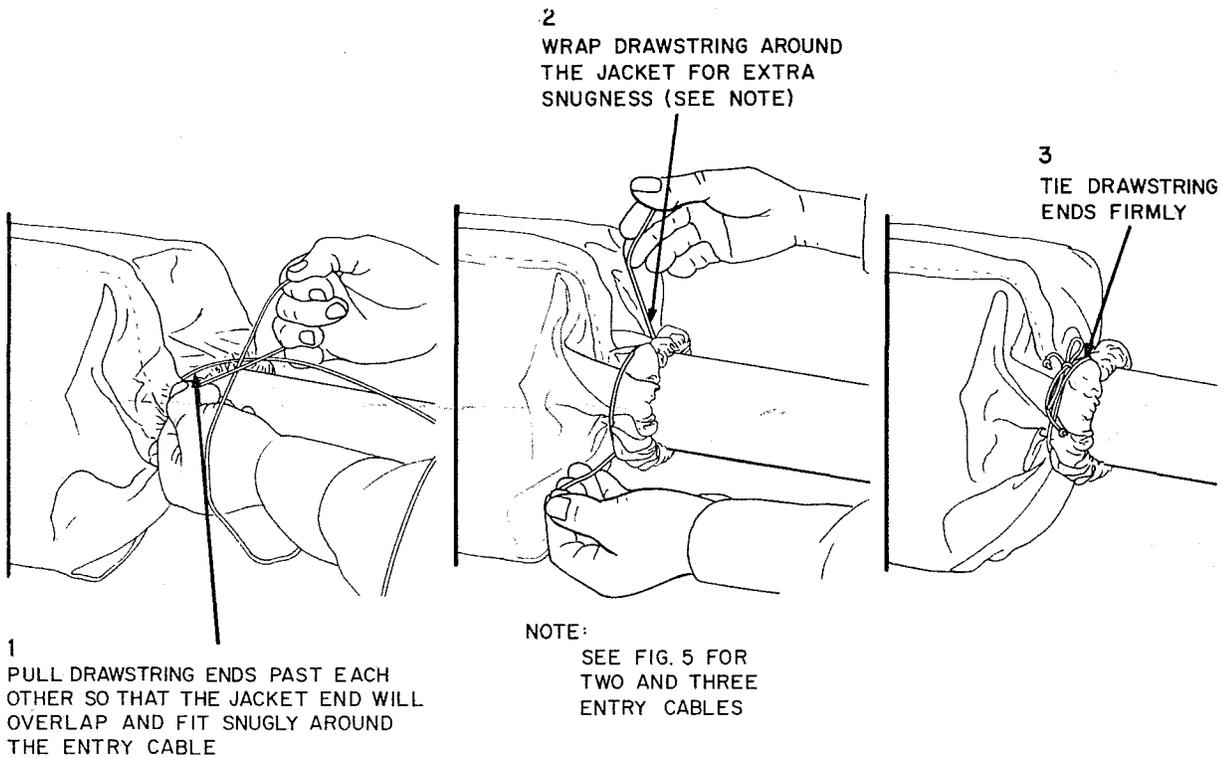

Fig. 3—Tying Drawstring Around Entrance Cable
3.02 Wrap and tie the jacket snugly around the cables as shown in Fig. 3 and 4.
WRAP AND TIE THE JACKET SNUGLY AROUND SINGLE ENTRANCE CABLE AS SHOWN IN FIG. 3. REFER TO FIG. 7 AND FIG. 8 FOR 2 AND 3 ENTRANCE CABLES RESPECTIVELY.
**3.05** Tie the bottom of jacket to single entrance cable as shown in Fig. 3. Refer to Fig. 7 and 8 for tying jacket around 2- and 3-entrance cables, respectively.